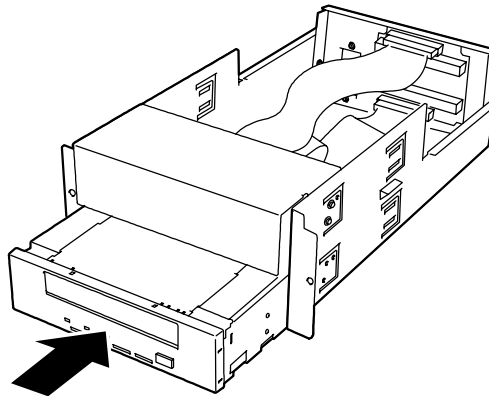

Figure 4-48. Installing the Device into the 5 1/4-inch Device Tray
10. Push the device all the way into the media bay until its screw holes are aligned directly in front of the screw holes on both sides of the 5 1/4-inch device tray, see Figure 4-48. Then using the screws supplied with the device secure it to the 5 1/4-inch device tray.